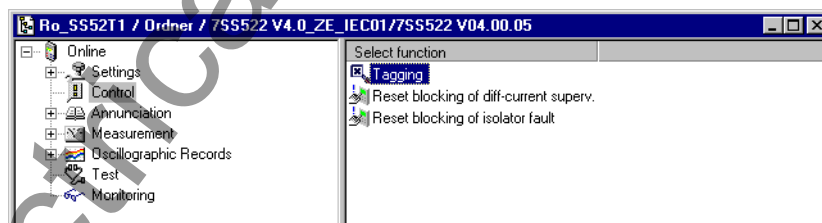

Figure 6-23 Reset blocking of differential current supervision using DIGSI
- ❑ Click **Control** in the navigation window. (see Figure 6-23, page 229).
- ❑ Click **Control** in the navigation window.(see Figure 6-23, page 229).